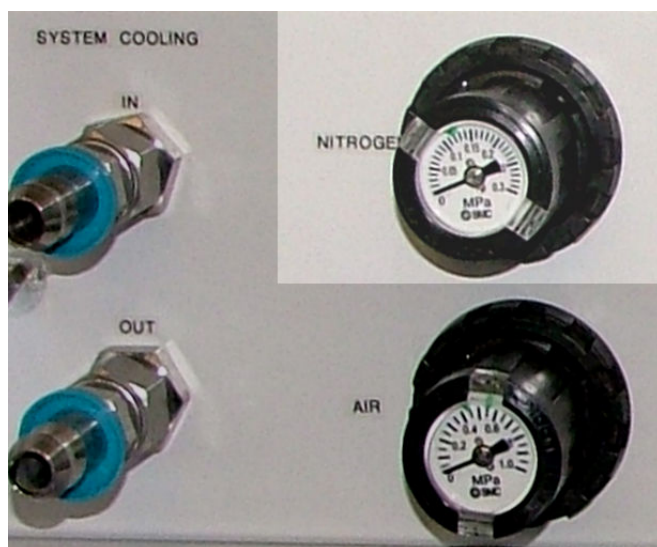

Figure 6-10 Location of the nitrogen regulator and gauge
- 1 Locate the nitrogen pressure gauge and regulator at the rear of the main base unit (see Figure 6-10).